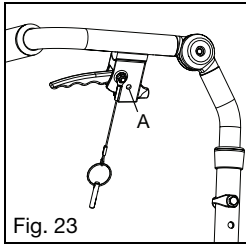

Fig. 23
- Determine which style back canes and trigger were provided with the chair by checking the images in Fig. 23 & 24.
- Insert the pin, attached to the trigger by a lanyard, into the hand trigger hole (Fig. 23:A & 24:A).